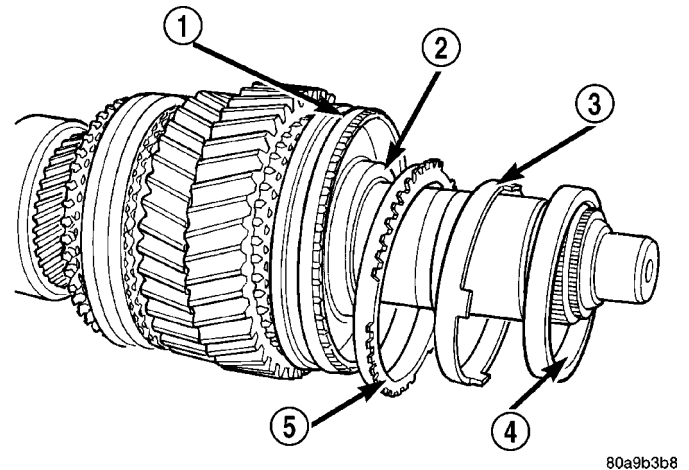
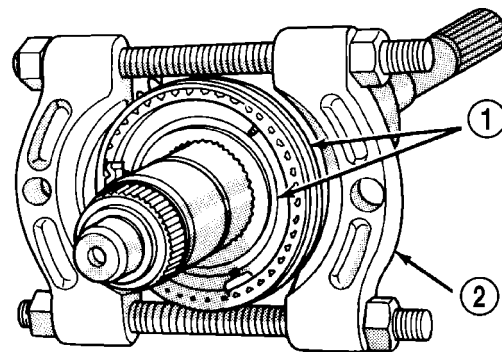

Fig. 41 SECOND GEAR SYNCHRO RING AND CONES
Fig. 42 HUB SLEEVE AND 1-2 SYNCHRO
(7) Remove second gear synchro ring, synchro friction cone and synchro cone (Fig. 41).
(8) Remove interim ring and 1-2 synchro hub snap ring.
(9) Remove 1-2 synchro hub, sleeve and first gear from output shaft with a press and Bearing Splitter 1130 (Fig. 42). Position splitter between first and reverse gears.